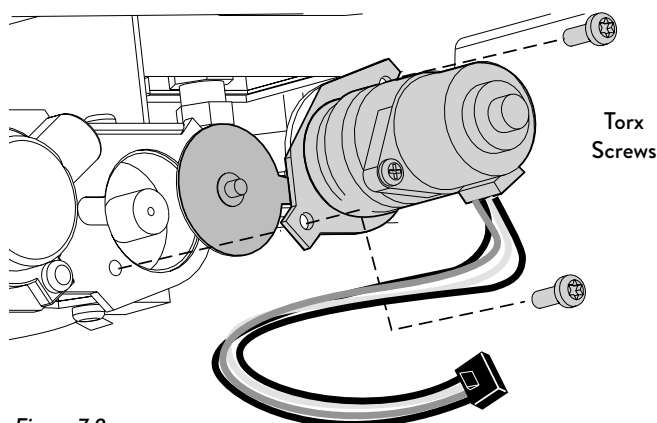

Figure 7.8.
11. **Regulator Conversion. Fig. 7.8.**